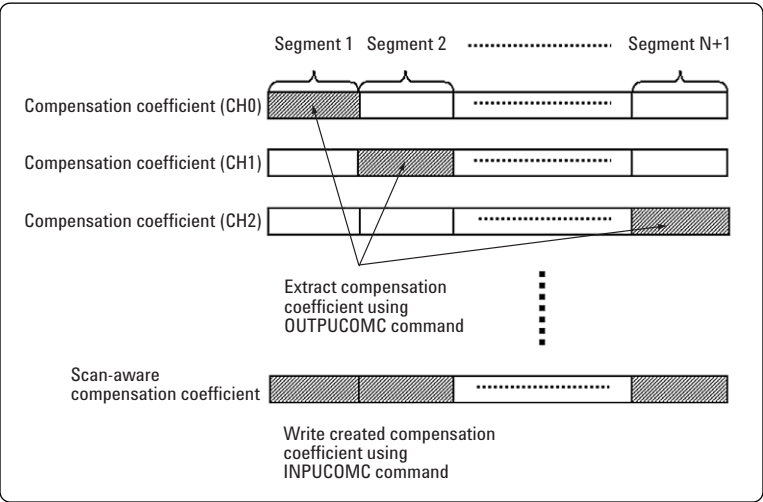

Figure 11 Creating scan-aware compensation coefficient
Step 5: Create a comparison coefficient that corresponds to the scanning system. After calculating the compensation coefficient in Step 4, read out the compensation coefficient array and combine the segments that correspond to individual channels in order to create the scan-aware compensation coefficient. Figure 11 shows a schematic view of creating the scan-aware compensation coefficient. The built-in programming function (I-BASIC) or an external GPIB controller needs to be used for creating a scan-aware compensation coefficient. Extract the compensation coefficient of each segment using the OUTPCOMC command. Read out the part of the compensation coefficient that corresponds to segment 1 into the part of the scan-aware compensation coefficient that corresponds to segment 1. For the other channels, perform a substitute operation from the fixture compensation to the scan-aware compensation coefficient. Finally, write the created compensation coefficient into the 4294A by using the INPUCOMC command to put the scan-aware compensation coefficient into effect.